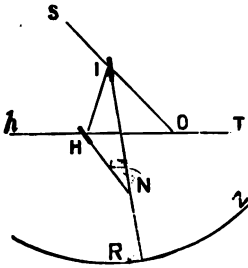

Fig. 1.
**Sextant.**—[*Sextant.*—*Der Sechstelkreis.*]—This, the angle-meter of mariners, is used in conjunction with the chronometer for ascertaining the longitude of a ship at sea. Its construction may be explained with the aid of the subjoined Fig. 1. At I is a mirror pivoted into the frame of the instrument, but attached to an index arm which is free to travel round a brass graduated arc on the frame at R. On the frame at H is the horizon glass, the half of which next to the frame is a mirror, and the other part clear glass. If a ray of light from the sun or other object at S impinges on